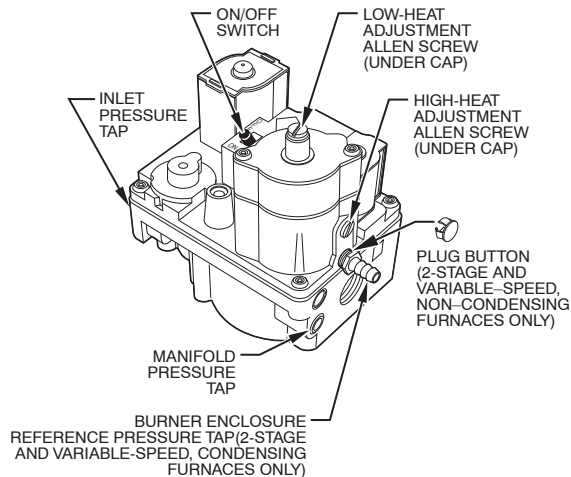

Fig. 47 - 2-Stage E Valve
For older model 2-stage furnaces with a Series E gas valve (see Fig. 47), they **DO NOT** need to have the regulator springs replaced in the gas valve, but the regulators in the gas valve must be pre-adjusted for propane applications.
For E valves see Fig. 47.
2. Remove caps that conceal adjustment screws for high- and low-heat stage gas valve regulators. See Fig. 47.